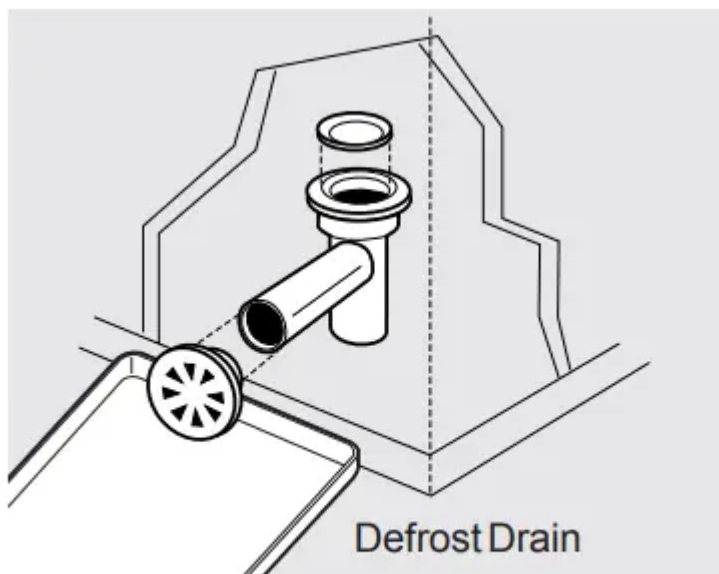
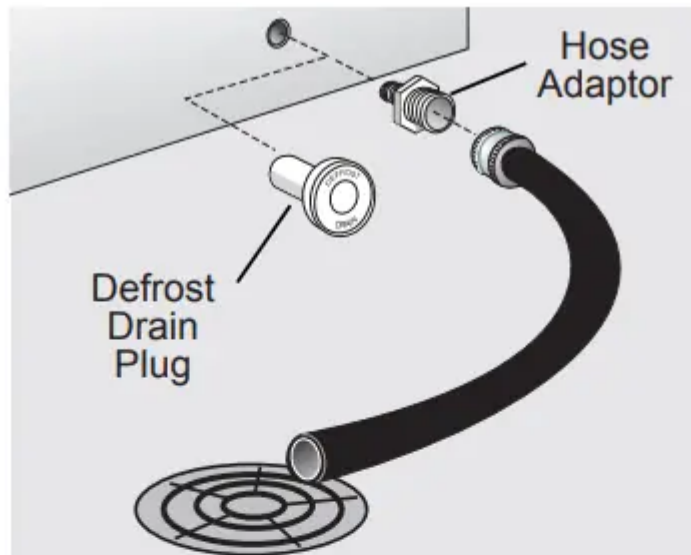
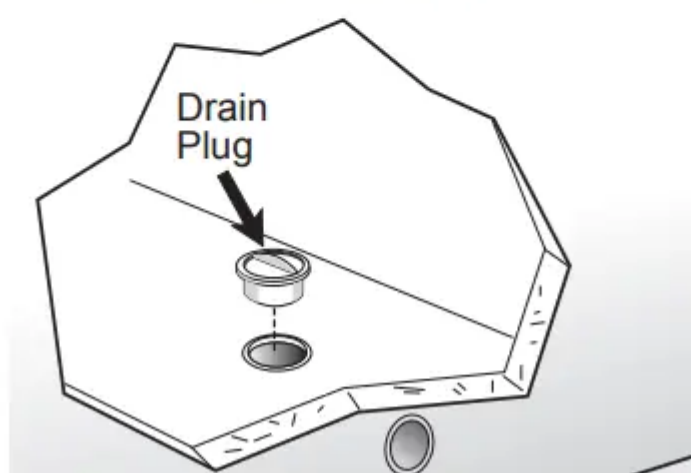

Figure 2
Figure 3
Figure 4
- On chest models with a defrost drain, place a shallow pan beneath the drain outlet (Figure 2). A ½ inch garden hose adapter can be used to drain the freezer directly into a floor drain (Figure 3). If your model is not equipped with an adapter, one can be purchased at most hardware stores. Pull out the drain plug inside the freezer, and pull off the outside defrost drain plug (Figure 4).